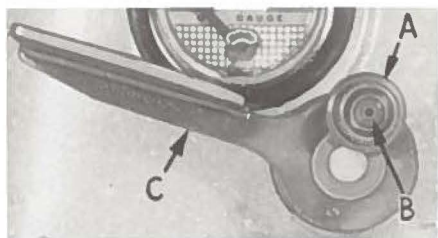
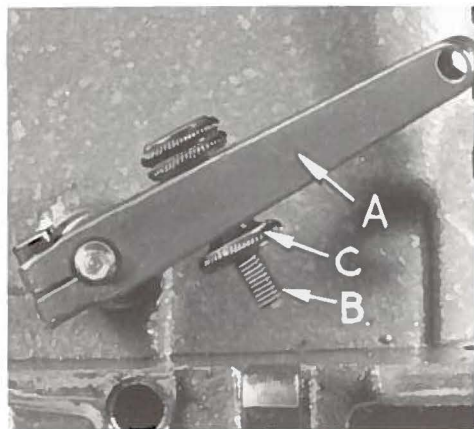

Fig. 28
Fig. 30
To change the stitch length, loosen knurled locknut (A, Fig. 28) and turn the feed adjusting screw (B). Turning the screw clockwise decreases the stitch length (resulting in more stitches per inch) and turning the screw counterclockwise acts the reverse. Tighten locknut (A) after obtaining the desired stitch length.
NOTE: The reverse feed is actuated by pushing down on the reverse feed control lever (C, Fig. 28) and the reverse feed will continue to operate as long as the control lever is held down.
CAUTION! On machines equipped with a treadle control reverse feed lever (A, Fig. 30) remove this lever before tipping machine back against the rest pin.
On machines equipped with a treadle control reverse feed lever (A, Fig. 30) hold down the reverse feed control lever (C, Fig. 28) and adjust the stop screw (B, Fig. 30) to stop against the bed casting. Lock stop screw (B) in this position with locknut (C). This is to prevent damage to the feed adjusting screw, when reverse feed is actuated by stepping on the treadle.